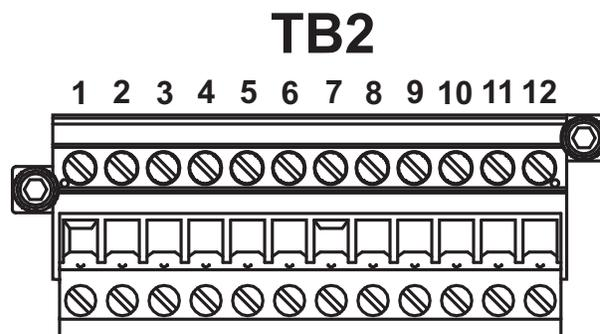

Figure 3-5 Mating terminal block (TB2) in electronics enclosure for connecting signal cables
- Strip back the jacket and insulation of the current loop and serial cables just enough to connect to the mating terminal block (TB2), shown in Figure 3-5. The mating terminal block can be pulled up and removed from its base to make the cable connection process easier.